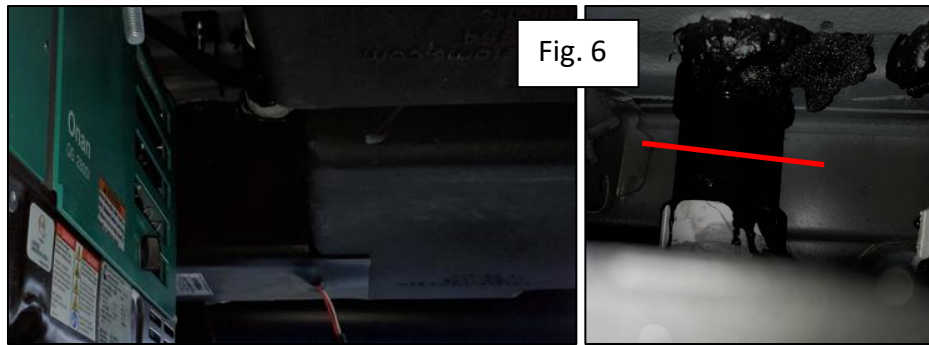

Fig. 6
10. Looking between the tank and the OEM floor, use a saw to cut the 1.5" Black pipe approximately 1 inch above the tank connection. (Figure 6)